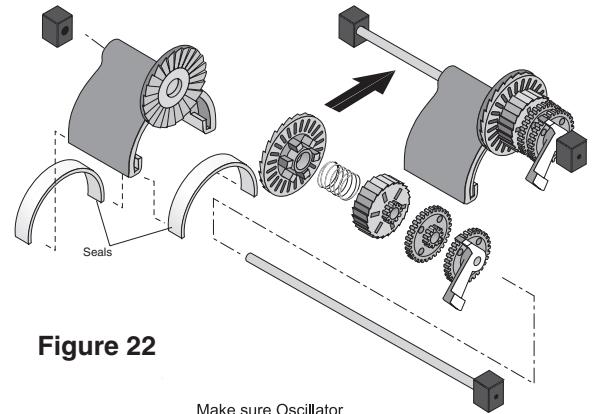

Figure 22
2. Install the oscillator on the long gear shaft. Install the ratchet gear on the shaft so that the teeth engage the ratchet on the oscillator. Install the spring, ratchet drum, pinion gear (large gear first), and cam (gear end first) on the shaft (**see Figure 22**). Hold the gears on the shaft while installing them, and compress the clutch spring to allow assembly to slip into place between the posts (**see Figure 22**).